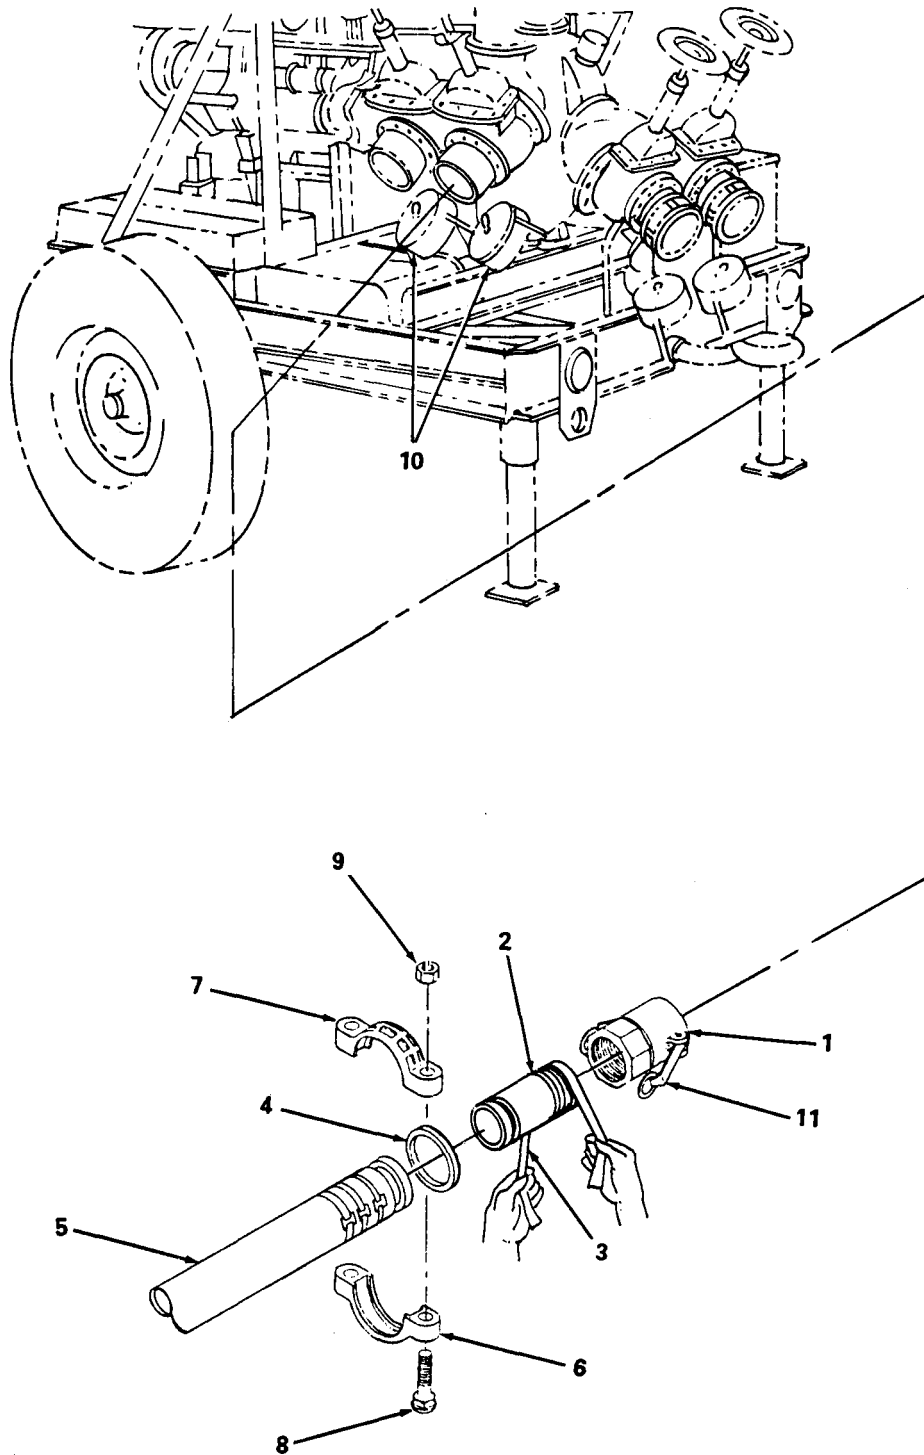

Figure 2-6. Attaching Discharge Hoseline to Pumping Assembly.
b. Attaching Discharge Hoseline to Pump Assembly. (figure 2-6)
- (1) Open chest containing hoseline flow control kit.
- (2) Remove one coupling half quick disconnect (female) (1).
- (3) Remove one grooved to external thread coupling (2).
- (4) Wrap one layer of white teflon tape (3) on threads of grooved-to-external (2) and attach coupling to quick disconnect coupling half (1). Coupling must be tight to prevent leakage.
- (5) Slide pipe coupling clamp rubber gasket (4) over end of hoseline (5). Make certain gasket is flush with end.
- (6) Place coupling (2) in line with hoseline (5) and slide gasket (4) over joint. Center gasket in place.
- (7) Position lower pipe coupling half (6) over gasket, then position upper pipe coupling clamp half (7).
- (8) Install two bolts (8) and nuts (9) so that nuts (9) will be exposed on the upper coupling half (7).
- (9) Hand tighten nuts (9) evenly, then with wrench, tighten nuts evenly until coupling faces meet.
- (10) Continue tightening nuts (9) evenly until both bolts (8) are secure.